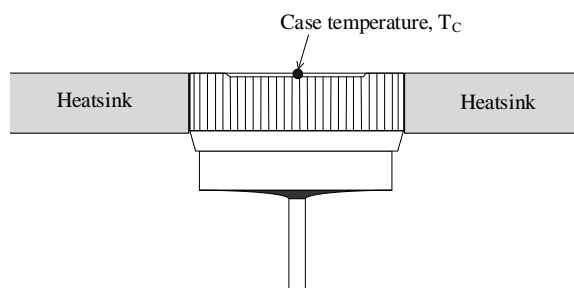

Figure 2. Case Temperature Measurement Conditions
(1)  $R_{th(J-C)}$  is thermal resistance between junction and case. Case temperature is measured as shown in Figure 2.
(2) See Figure 2 for measurement conditions of case temperature.